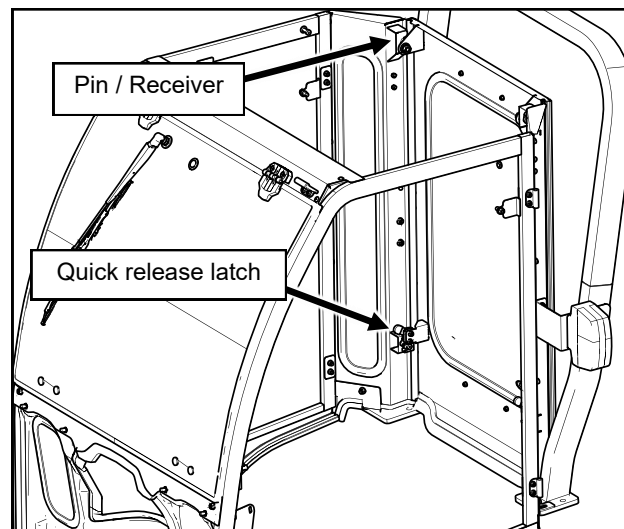

Fig. 12.1 (Rear Panel Installation)
**12.1** Lift rear panel and slide the upper pins into the receivers on the rear legs. Engage the lower quick release latches at this time. See Fig. 12.1.
*Note: The quick release latches require (2) clicks to be fully locked. Press the rear panel in from the outside in these locations to double click the latches.*